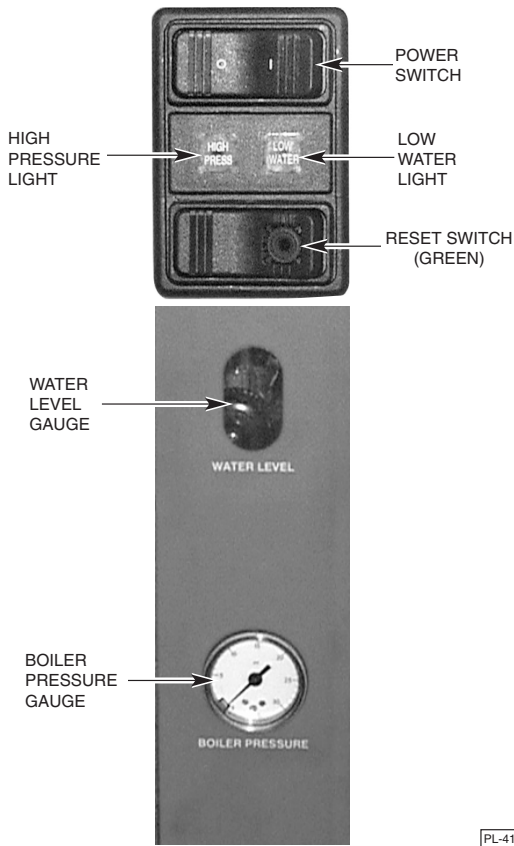

Fig. 2
3. Locate the boiler power switch and press [I] to start. Two amber indicator lights (low water and high pressure) will light as water fills the boiler. After about 4 to 5 minutes, the water will reach the required level in the boiler and the green indicator light on the reset switch will light. Refer to Fig. 2, page 16.
- Gas pilot pressure dropping more than 0.25" W.C. indicates an insufficient supply. Larger diameter (ID) gas supply piping to the steamer must be used.
19. Press [O] on the power switch on the boiler (Fig. 2) to turn the steamer off. The indicator lights are not lit. The boiler will automatically blow down.
BOILER CONTROLS — GAS (Figs. 2, 3) or ELECTRIC (Figs. 2, 4)
1. Press [O] on the boiler power switch (Fig. 2).